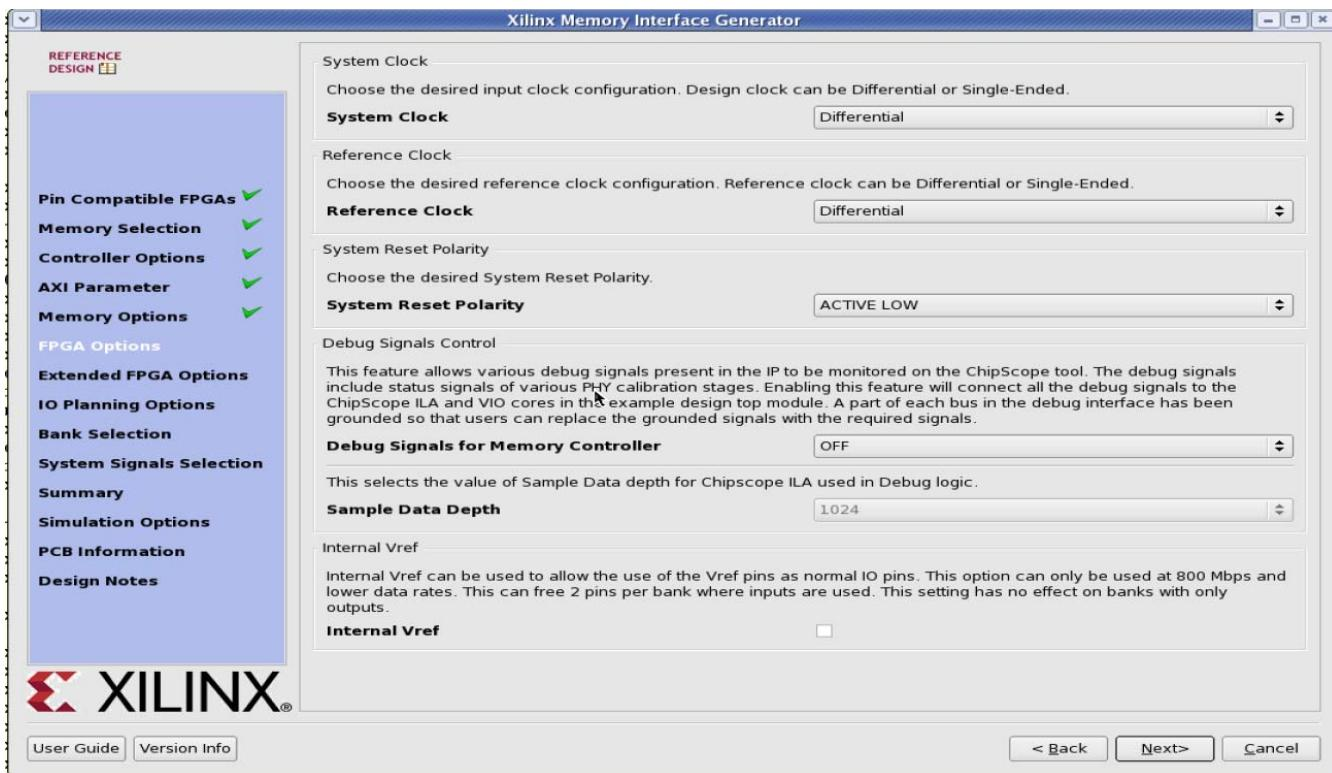

Figure 3-20: **FPGA Options Page**
Figure 3-20 shows the **FPGA Options** page.
- **sys_clk** – This is the system clock input for the memory interface and is typically connected to a low-jitter external clock source. Either a single input or a differential pair can be selected based on the **System Clock** selection in the **FPGA Options** page (Figure 3-20). The sys_clk input must be in the same column as the memory interface. If this pin is connected in the same banks as the memory interface, the MIG tool selects an I/O standard compatible with the interface, such as DIFF_HSTL_I or HSTL_I. If sys_clk is not connected in a memory interface bank, the MIG tool selects an appropriate standard such as LVCMOS18 or LVDS. The XDC can be modified as desired after generation.
- **clk_ref** – This is the reference frequency input for the IDELAY control. This is a 200 MHz input. The clk_ref input can be generated internally or connected to an external source. A single input or a differential pair can be selected based on the **System Clock** selection in the **FPGA Options** page (Figure 3-20). The I/O standard is selected in a similar way as sys_clk above.
- **sys_rst** – This is the asynchronous system reset input that can be generated internally or driven from a pin. The MIG tool selects an appropriate I/O standard for the input such as LVCMOS18 and LVCMOS25 for HP and HR banks, respectively. The default polarity of sys_rst pin is active-Low. The polarity of sys_rst pin varies based on the **System Reset Polarity** option chosen in **FPGA Options** page (Figure 3-20).